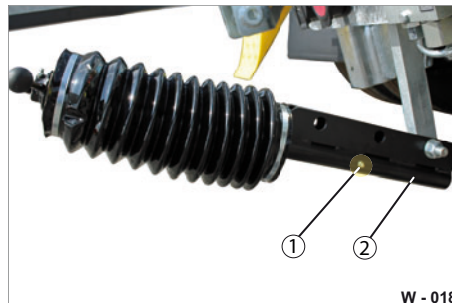

Fig. 14 Lubricating height setting
► Lubricate the swivel axis on the lower spindle (Fig. 14/1) with a grease gun until lubricant escapes.